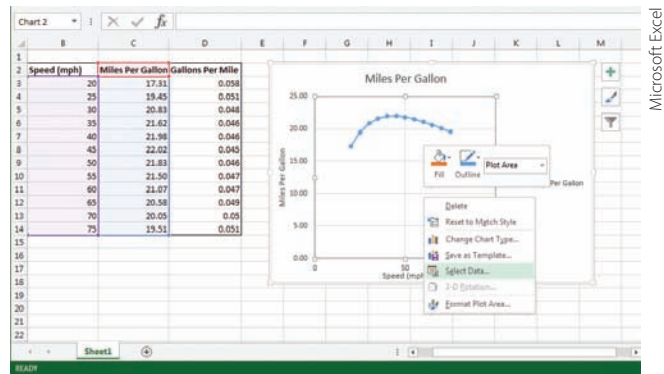

FIGURE 14.21 Plotting fuel consumption.
2. We plot the fuel consumption in miles per gallon versus speed, as shown in Figure 14.21.
3. With the mouse pointer in the chart area, click the right mouse button and choose **Select Data** ..., also shown in Figure 14.21.